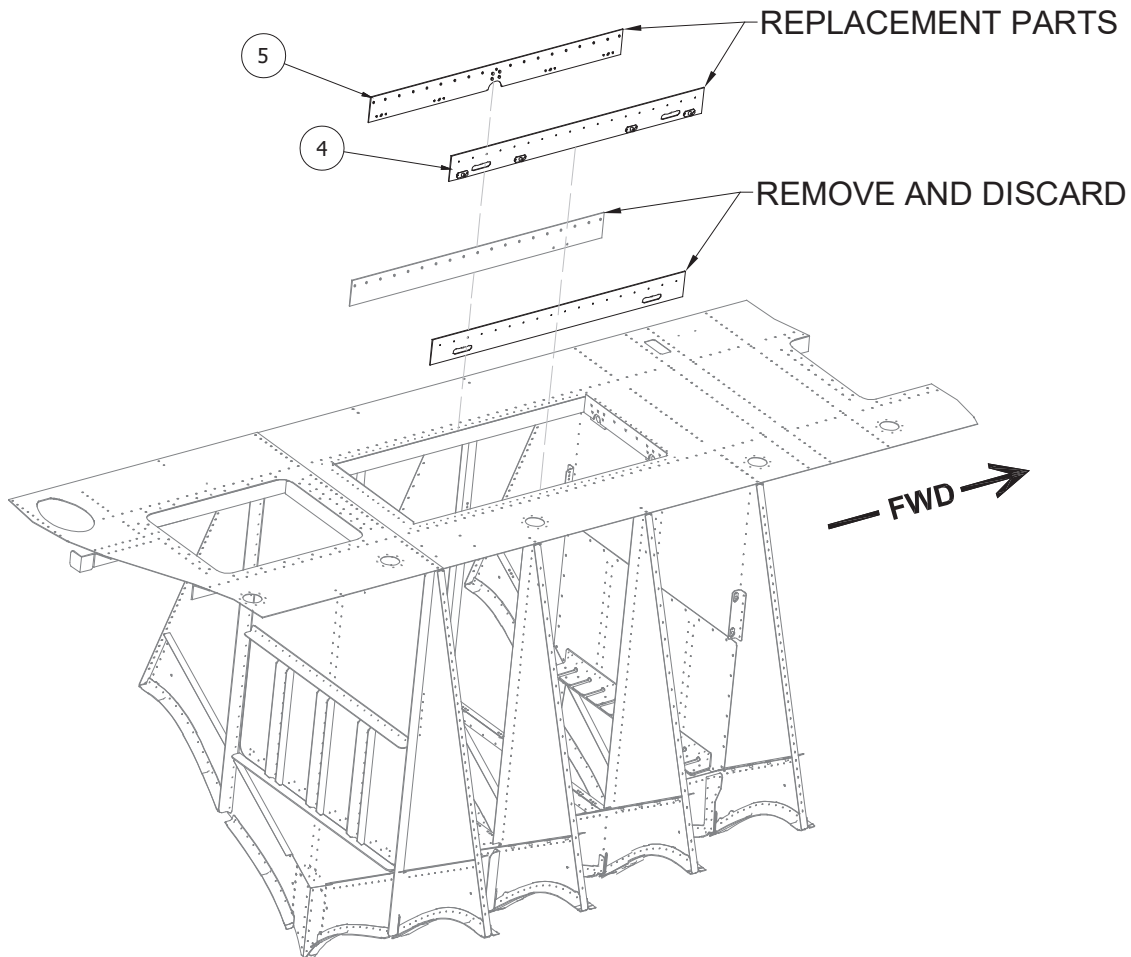

Figure 4
1. Remove the existing inboard and outboard baggage lip per Figure 4.